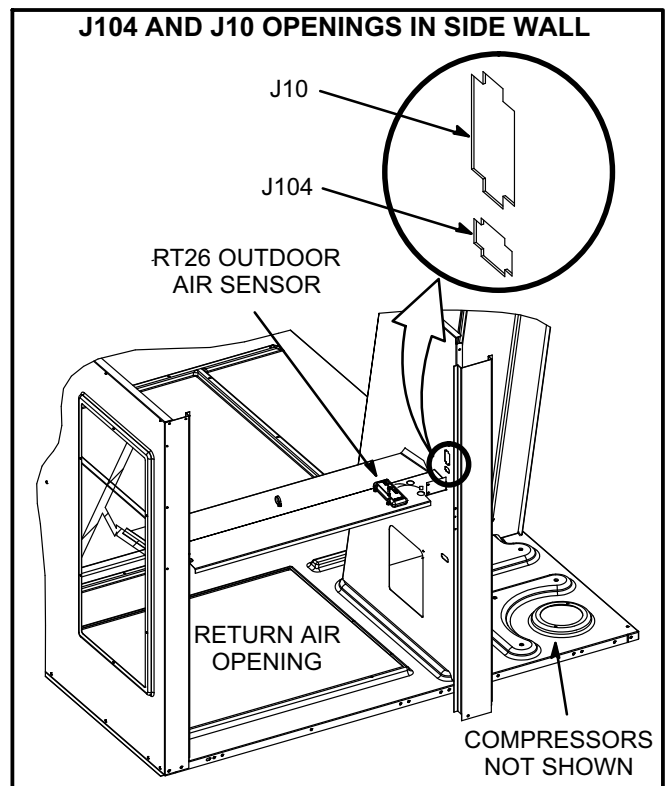

FIGURE 17
- 1- Mount sensor onto the economizer divider panel as shown in figure 17. Use #6 - 32 X 7/8" TFS screws provided.